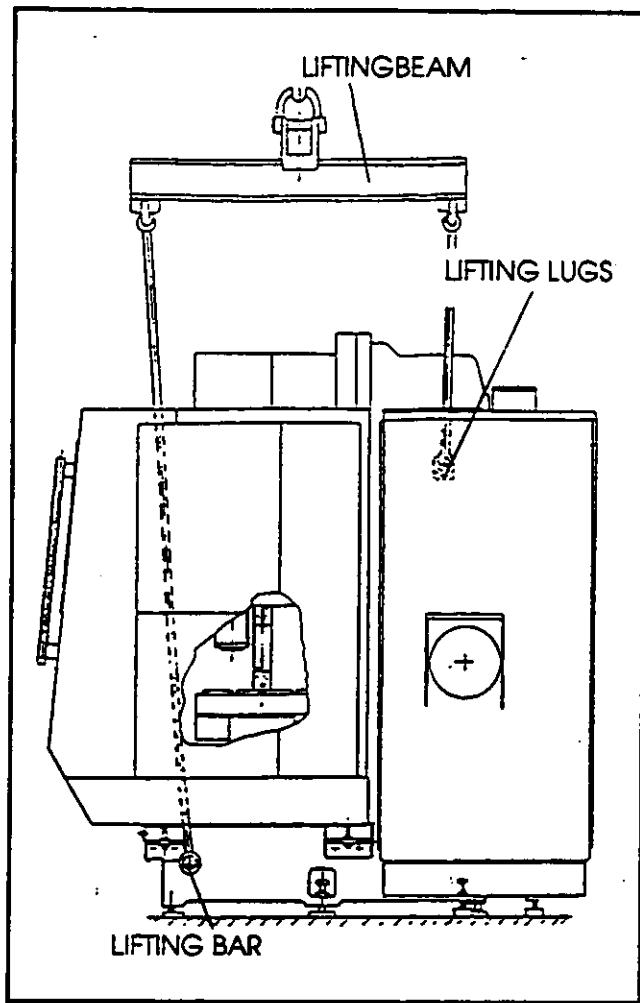

Figure 1.1 Slinging
Base machine approximately 2,850 kgs or (6,300 lbs). To lift the machine you will require a steel bar approximately 50mm (2in.) diameter and 1,524 mm (5ft.) long and a lifting beam. Follow the procedure below and use the recommended method of slinging the machine as shown above (figure 1.1).
- ii) Before raising the machine off the ground test for balance. Figure 1.1 clearly depicts the method of slinging. If the machine cannot be lifted in the conventional manner, it should be jacked-up onto rollers and then drawn into position. The machine together with its ancillary equipment should now be positioned on the selected site and levelled.